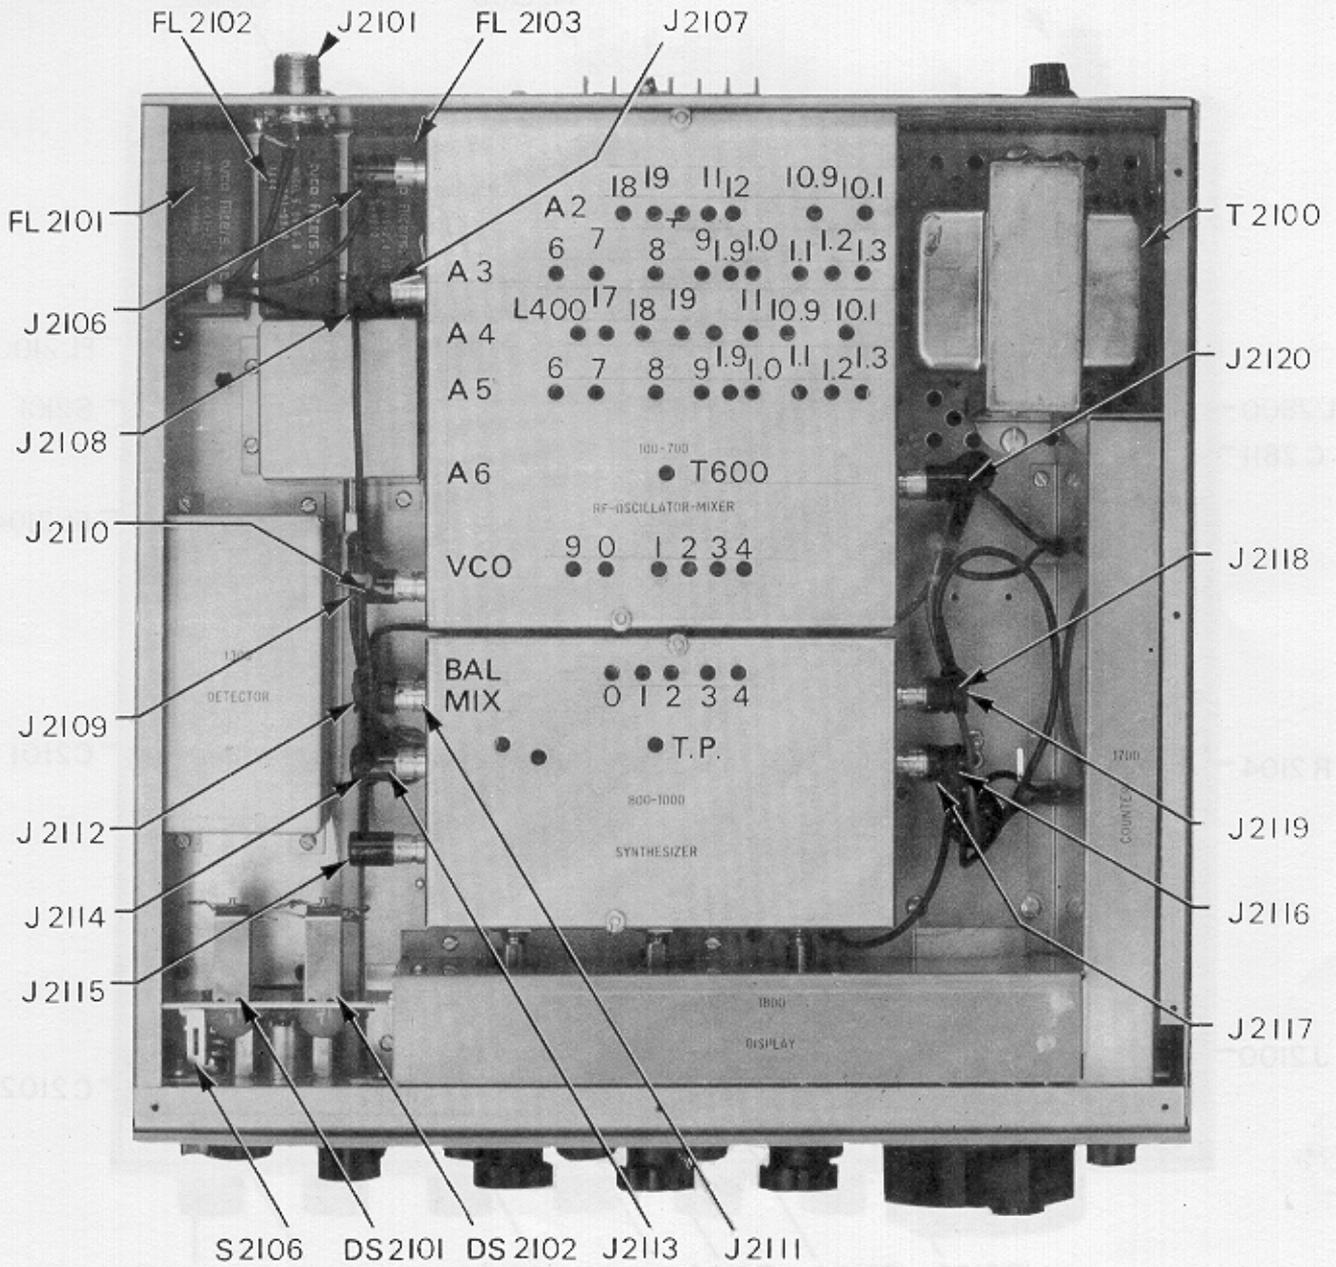

Figure 5-3. Alignment Locations, Top View
- b. Refer to figures 5-3 and 5-4. Attach the DC probe of a VTVM to the control line (J2113) from the Programmable Divider card in the Synthesizer.